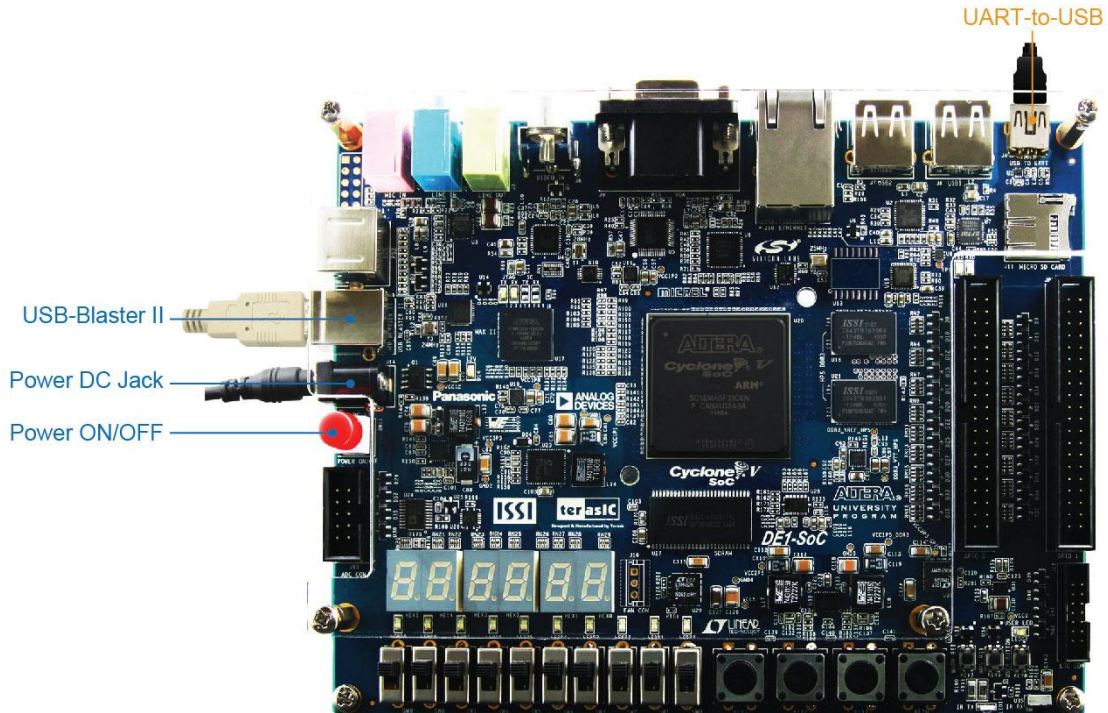

Figure 3-2 USB and Power Cables
Cable connections are shown in **Figure 3-2** as below:
1. Connect your computer to the development board by plugging the USB cable into the USB connector (J13) of DE1-SoC (connection shown in Figure 3-2)
1. Connect your computer to the development board by plugging the USB cable into the micro USB connector (J4) of DE1-SoC (connection shown in Figure 3-2)